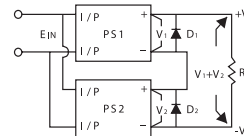

Figure 11: Series connection by adding external reverse blocking diodes
- b) Increase the output voltage (current does not change). If there is no reverse blocking diode in the power supply, we should add an external blocking diode to prevent the damage of power supply while starting up. The voltage rating of the external diode should be larger than V_1+V_2 (as figure 11).